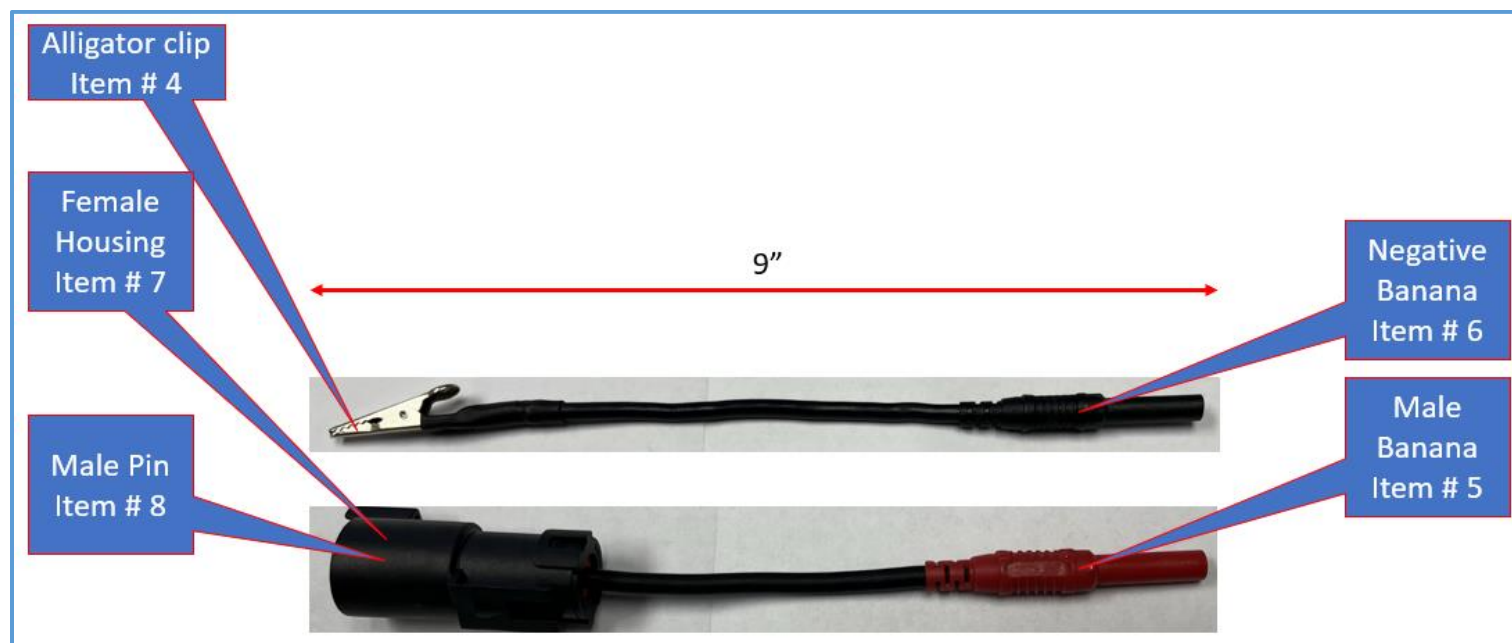

Figure 2
- Optional: Bench harness power/ground jumpers can be fabricated per FIG 2.